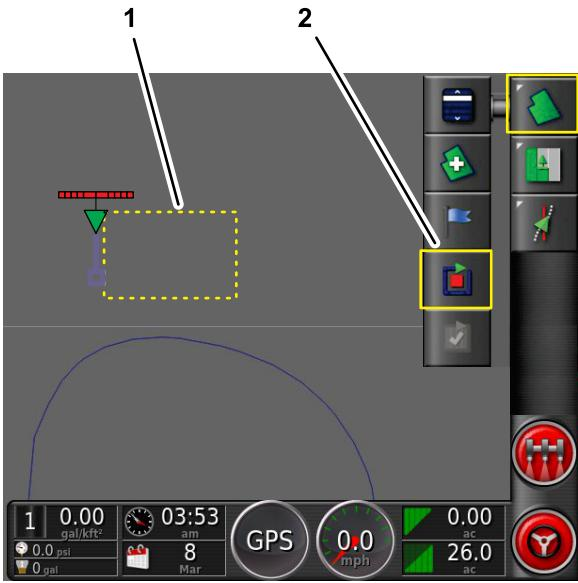

Figure 46
- Align the outside, center part of the left front tire at the first point of the straight sided field boundary, and stop the machine (Figure 46).